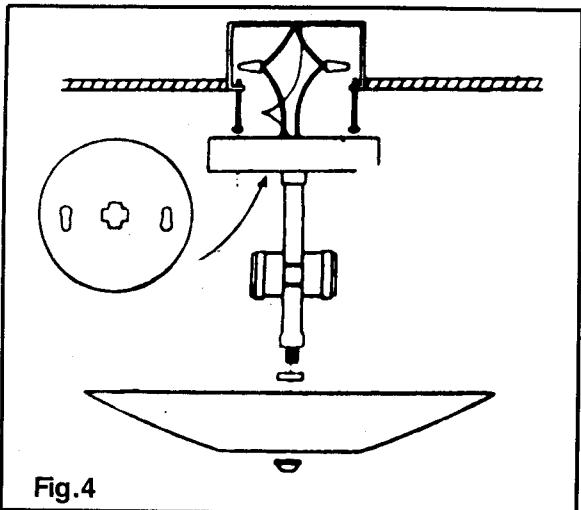

Fig. 4
4. If applicable, attach shades to fixture. Some shades require the use of shade attachment screws. Do not overtighten these screws - too much pressure could cause glass breakage. See Fig. 4 for placement of fabric spacer, not supplied on all models.